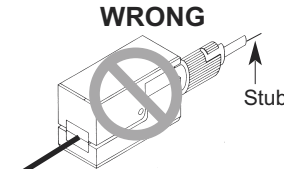

Figure 2
- Slowly release the pressure foot on the Bare Fiber Adapter securing the fiber between the foam pads. Connect to apparatus. CAUTION: To reduce the possibility of fiber end damage or damaging test equipment, be sure fiber is not protruding from connector face when connecting to apparatus (Figure 2 & 3).